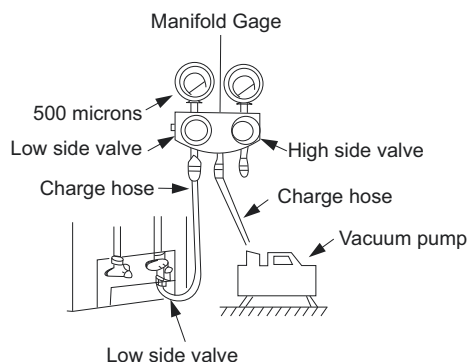

Fig. 11 — Manifold
3. Fully open the low side of manifold gage (see Fig. 11).